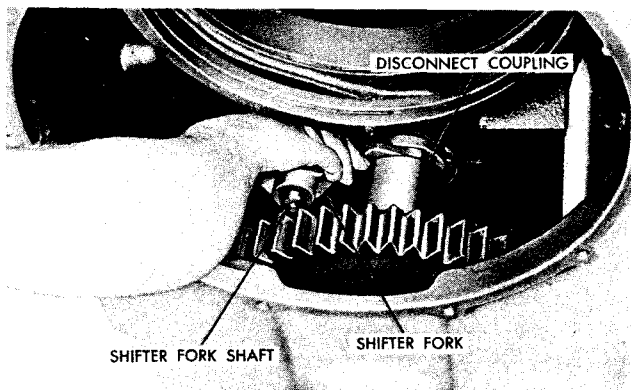

Fig. 7-2. Installing disconnect shifter fork and shaft
(8) Install the disconnect shifter fork, as shown in figure 7-2. While holding the fork in position, install the shifter fork shaft through the oil seal at the front of the housing and thread it into the fork. Refer to paragraph 3-8c for adjustment of the shifter fork shaft.